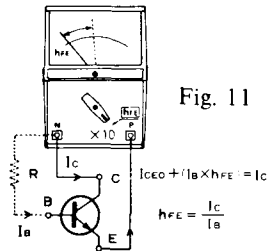

Fig. 11
- 3-1 Besides reverse leakage current, the amplification degree of a TR kinetically measured also determines the quality of a TR on a very simple theory. As a TR is connected to the tester as shown in Fig. 11, there flows  $I_{CE0}$ . A certain resistance (R) connected across the N terminal and the base of the TR causes the current  $I_B$  to flow